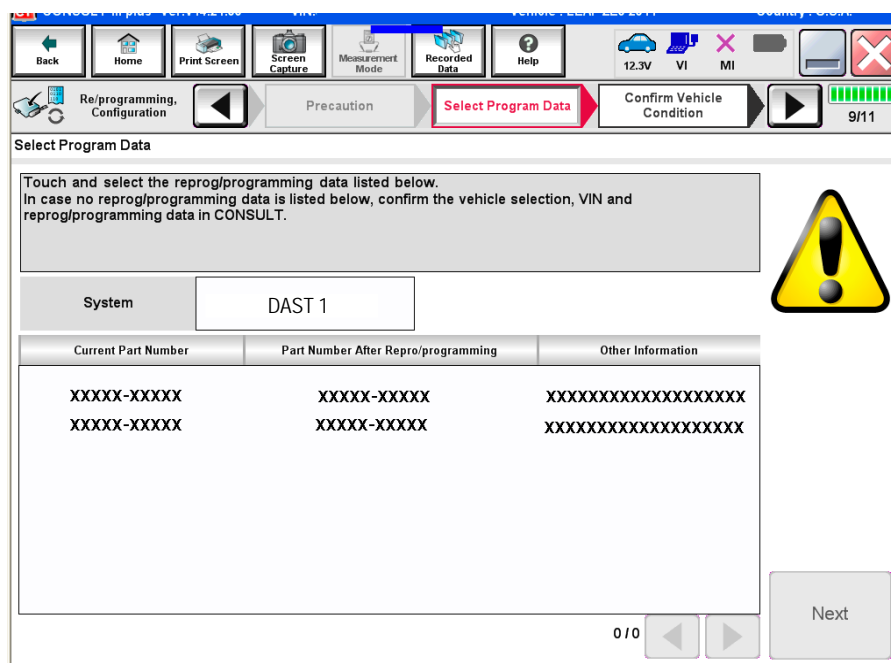

Figure 10
- If more than one new P/N is available, the screen in Figure 10 will display.